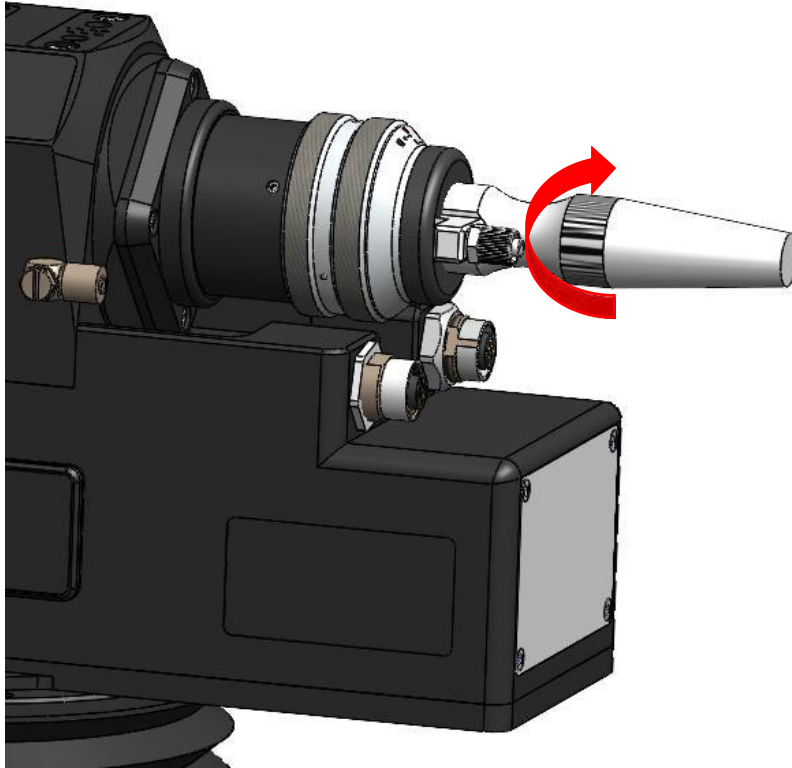

Figure 2.2
⑤ Turn clockwise to the limit position (you will feel a "click"), lift the rotating nut upwards, and then turn the nut clockwise again until it compresses the fiber head, screw the QBH connector to the locked position (be careful to just turn it into place without over-tightening, as this may damage the internal structure of the QBH), as shown in Figure 2.2.